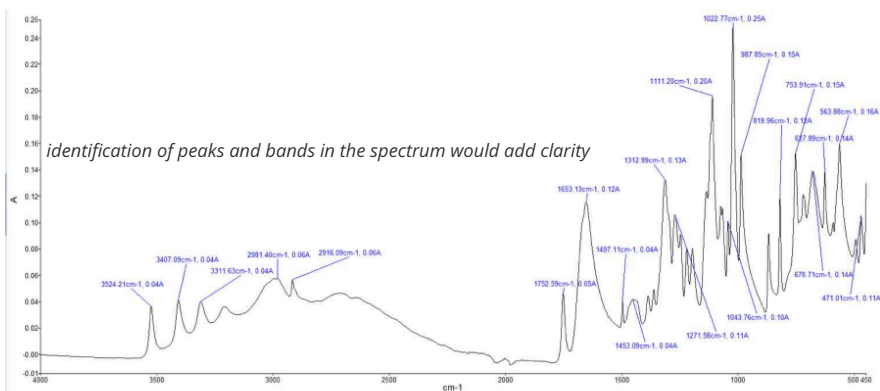

Figure 3 Sample A Spectra Result
It can be seen in figure 3, the spectra output from sample A the peaks from the functional group region indicate from the list of given examples that sample A is Ascorbic acid. This is due to the absorption regions for ascorbic acid:
Key absorption regions	Spectra result as seen in figure 3
-] Available: [https://www.researchgate.net/figure/FTIR-spectra-of-naturally-aged-](https://www.researchgate.net/figure/FTIR-spectra-of-naturally-aged-double-base-propellant-DBP_fig3_328475445)
- double-base-propellant-DBP_fig3_328475445. [Accessed 20 10 2025].